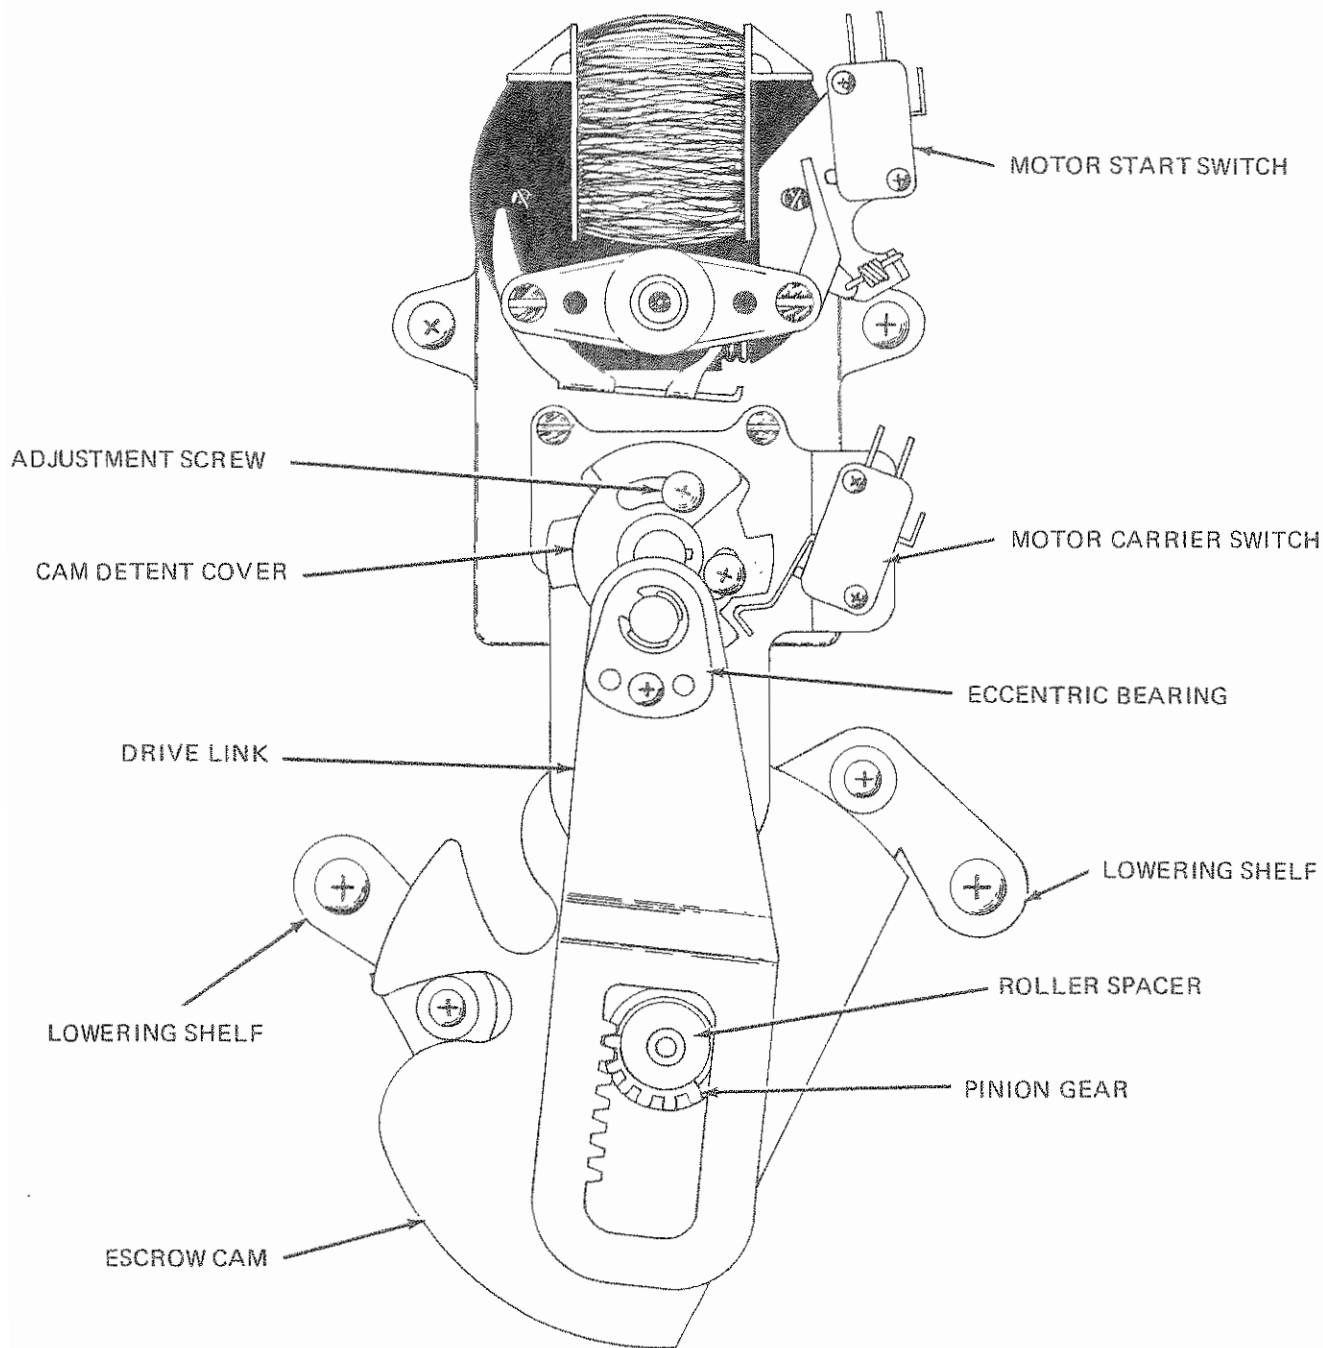

Figure 19
8. Change setting of cam detent cover to permit 4 detent positions. Loosen one (1) screw and rotate cam detent cover counterclockwise and secure. (See Figure 19)
2. Change setting of cam detent cover to permit only two detent positions. Loosen one (1) screw and rotate cam detent cover clockwise and secure. (See Figure 19).
8. Change setting of cam detent cover to allow 4 detent positions. Loosen one screw and rotate cam detent cover counterclockwise and secure (See Figure 19).